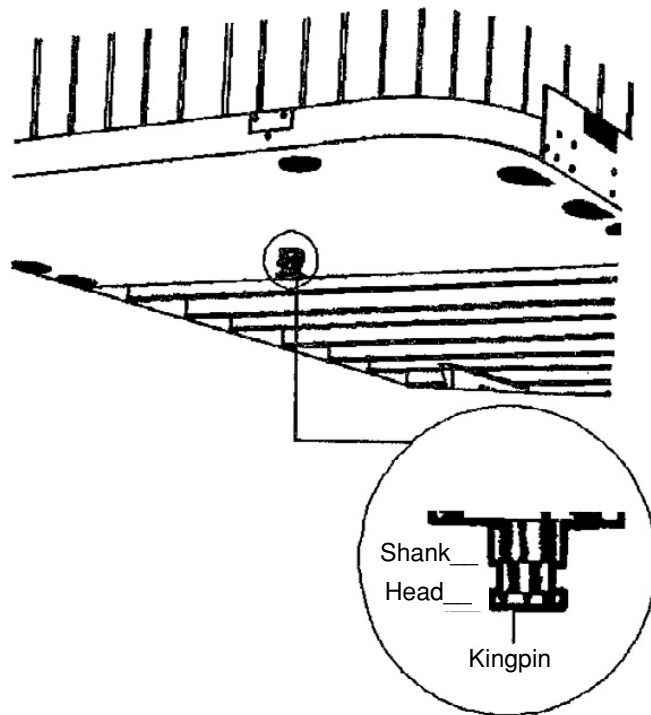

Figure 6-7
- Go under trailer and look into the back of the fifth wheel. Make sure the fifth wheel jaws have closed around the shank of the kingpin (see Figure 6.7).